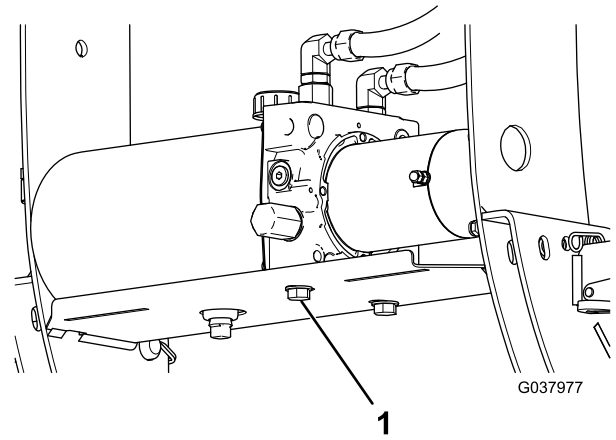

Figure 27
5. Clean the area around the drain plug (Figure 27).